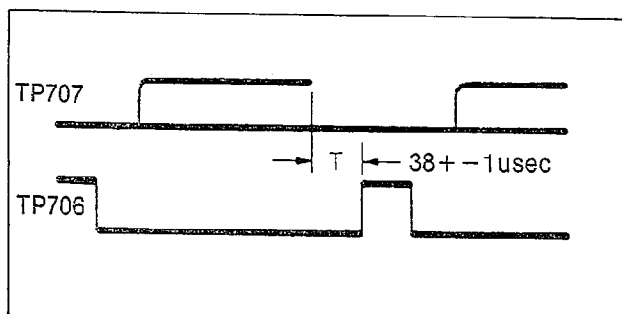

Fig. C44
- (1) Set the AF Gate Control (C726) as shown in Fig. C44.